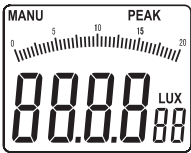

Figure 3-2
- Press and hold "REL/PEAK" key for one second, the device will enter the peak value measurement mode, "PEAK" LCD will appear on the top right position of the LCD interface, and at the same time, "MENU" will appear on the top left position of the LCD interface (as shown in figure 3-2).